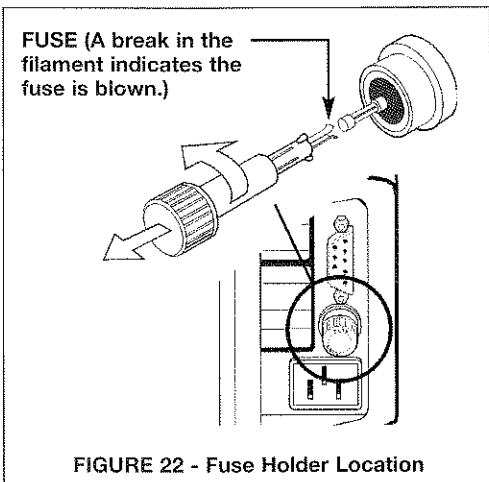

FIGURE 22 - Fuse Holder Location
3. If the outlet is OK, remove the fuse holder from the electrical panel at the rear of the dispenser and check the fuse to see if it is blown. A break in the filament (the thin wire running the length of the fuse) indicates the fuse is blown. See Figure 22. Use a continuity tester to check the fuse if you are unsure.